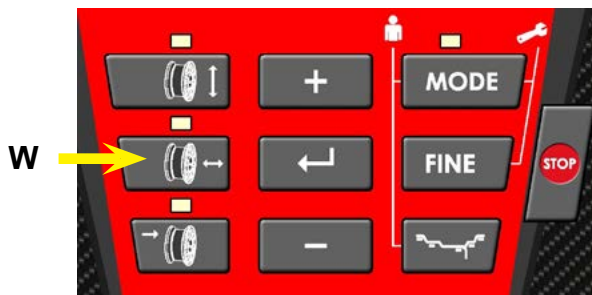
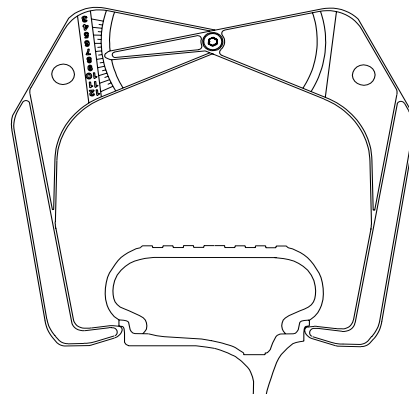

Figure 23a
Figure 23b
**4.5.2. Measure/Enter rim width** using rim width calipers. Measure wheel where corrective clip-on weight would be applied, Figure 23b. Press the Width entry key, Figure 23a, and enter the measured width by pressing +/- keys until the desired value appears in the display.